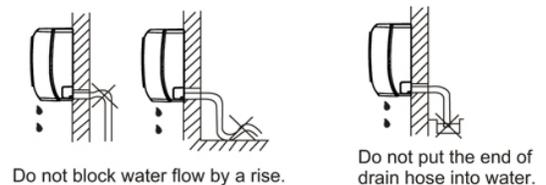

Fig.7
- Run the drain hose sloping downward. Do not install the drain hose as illustrated in Fig.7.